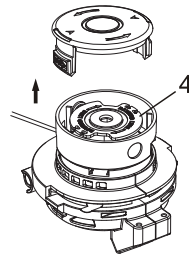

Fig. 12
3. Pull the empty spool (4) upward to remove the spool and any remaining trimmer line from the spool housing (Fig.12).